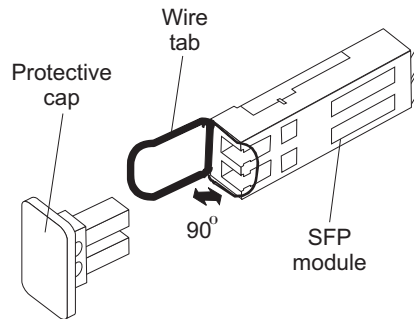

Figure 37. Unlocking the SFP module latch - wire variety
- For SFP modules that contain wire tabs, unlock the SFP module latch by pulling the wire latch outward 90°, as shown in Figure 37.